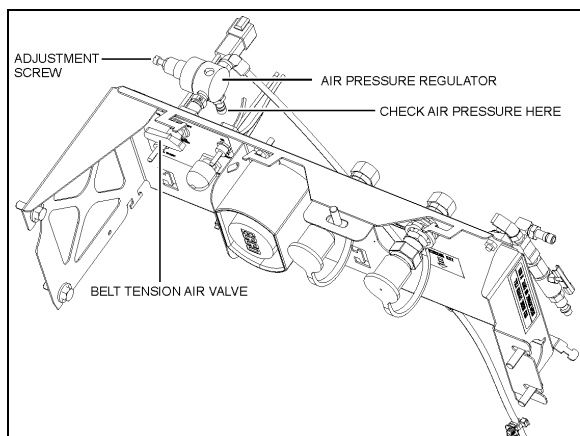

FIGURE 9: BELT TENSIONER VALVE
5. Locate the A/C compressor belt tensioner pressure releasing valve (Fig. 9). Turn pressure releasing valve handle counterclockwise in order to release pressure in belt-tensioner air bellows and loosen belt. Remove the A/C compressor belt.